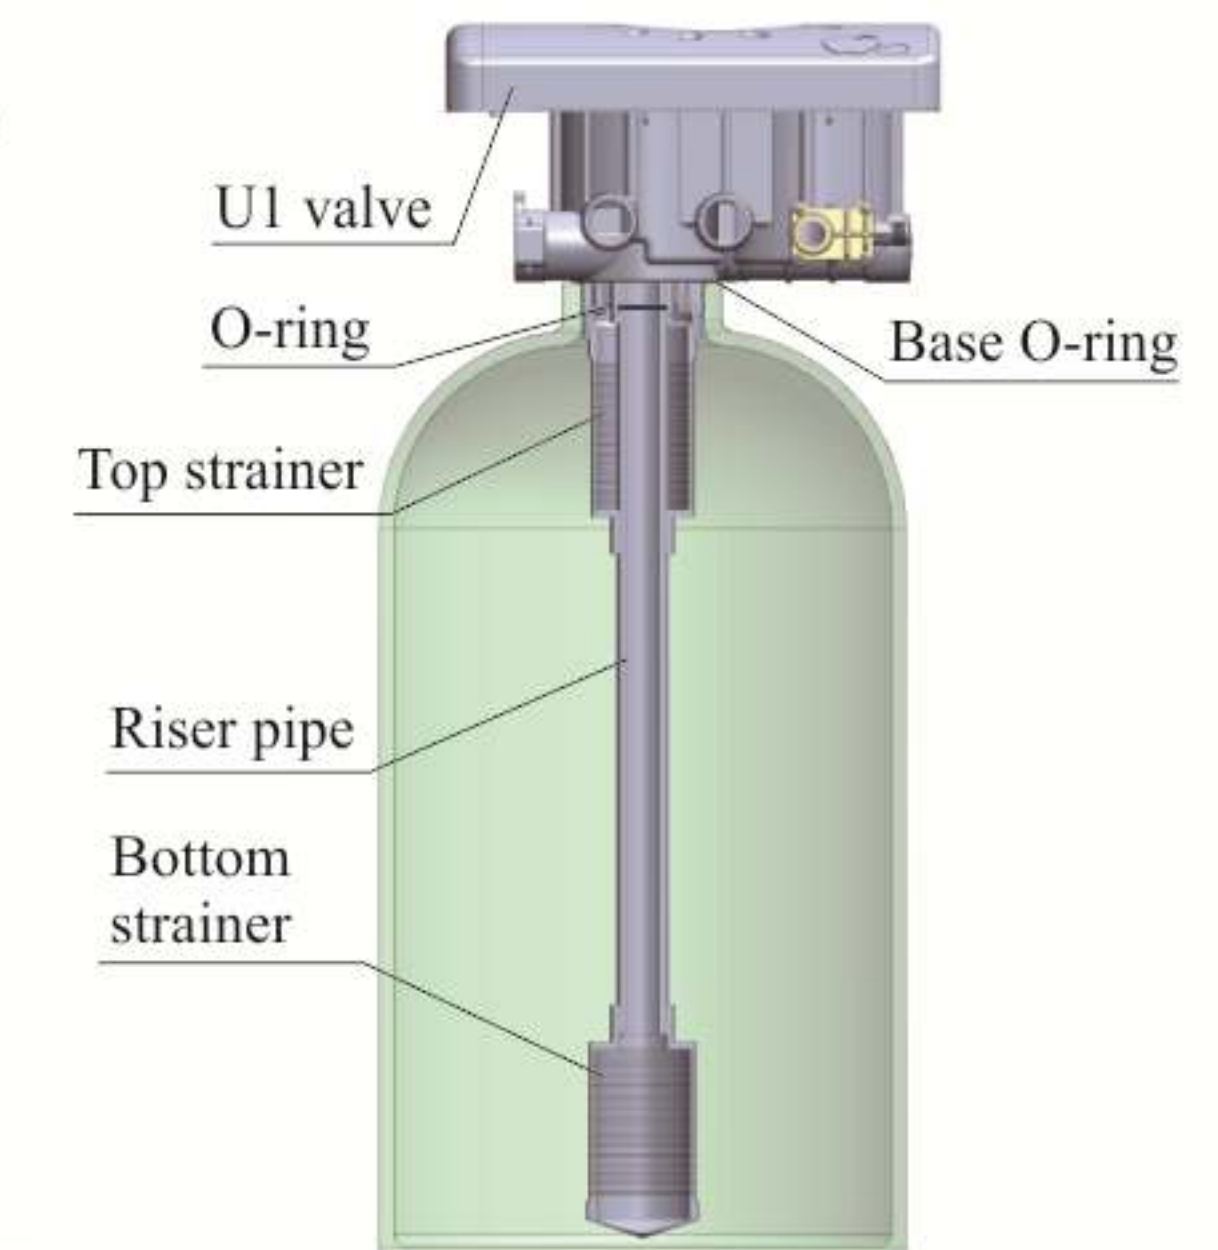

Figure 1
- 1.As the Figure 1 shows, glue the riser pipe to the bottom strainer and put it into the mineral tank, cut off the exceeding tube out of tank top opening and make external rounding.